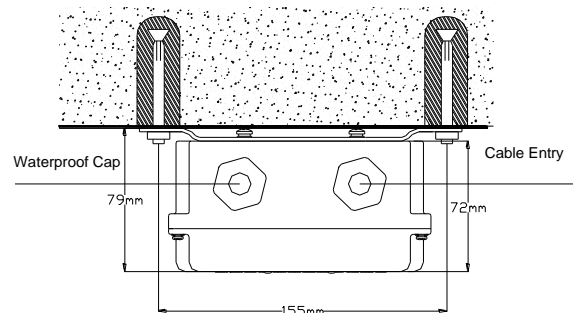

Fig. 2
a) Wall mounted: Fix the mounting bracket to the wall using two M6×60 expansion bolts, its mounting dimension is shown in Fig. 2.